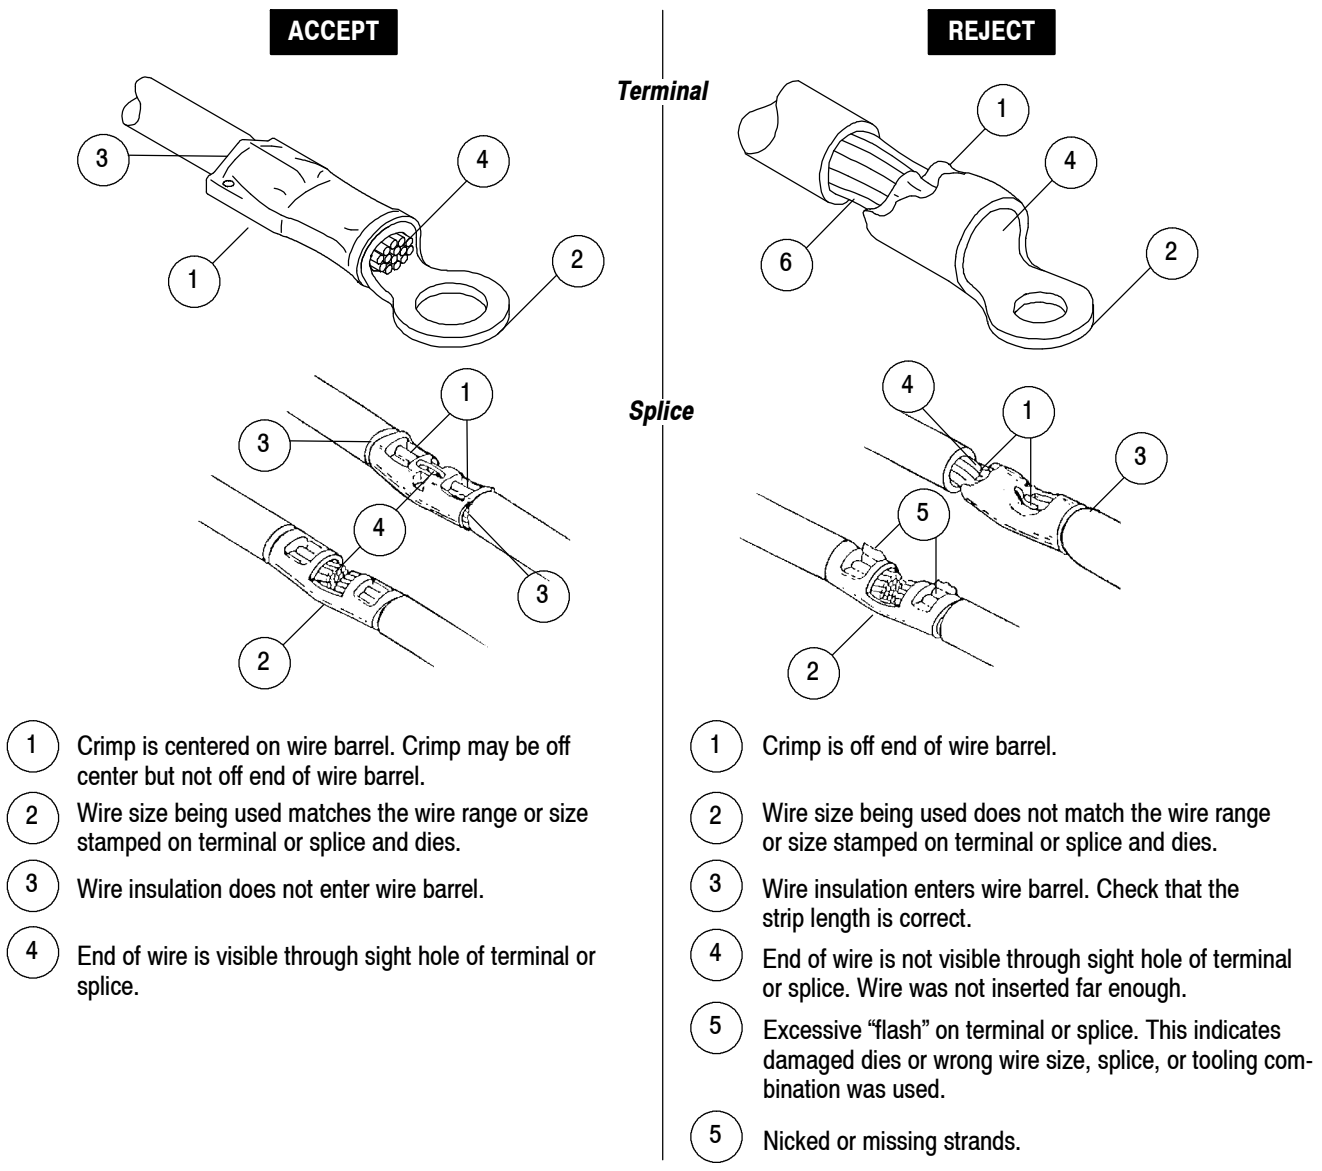

Figure 5
9. Inspect the crimp according to Figure 5. This is included as an aid to the tool operator **ONLY**. It is not intended to serve as a quality control inspection for qualifying finished crimps on these terminals and splices. Use only terminals or splices that meet the conditions shown in the ACCEPT column. Terminals and splices displaying the features shown in the REJECT column can be avoided by careful use of these instructions and by performing the maintenance and inspection procedures described in Section 5.